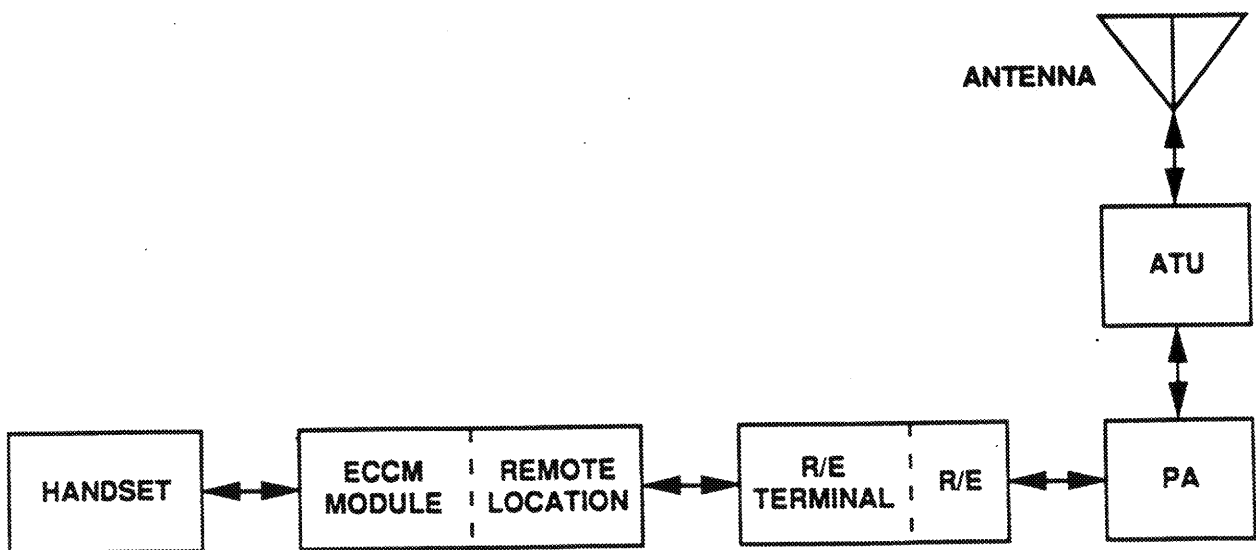

Figure 4-4. Voice Signal Flow with the RCS Remoted
For voice communications using the RCS, the ECCM is removed from the R/E and connected to the Remote Location (Figure 4-4). The R/E is mated to the Tone Converter and reconnected to the Vehicular Adapter (VA). The Fast Synthesizer cable must be removed from the VA to allow operation of the R/E internal synthesizer which is used in remote voice mode. The Tone Converter and the Remote Location are then interconnected using field wire. Voice signal flow from the R/E to the antenna is the same as for normal vehicular configuration.